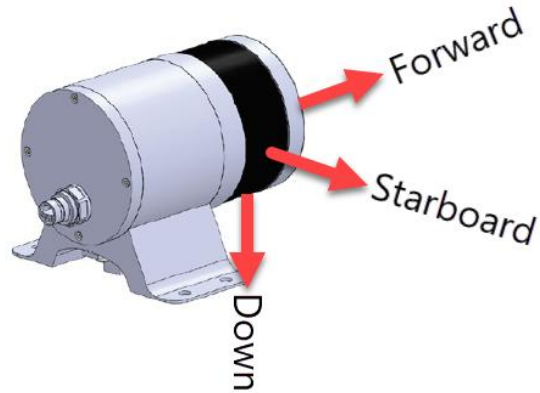
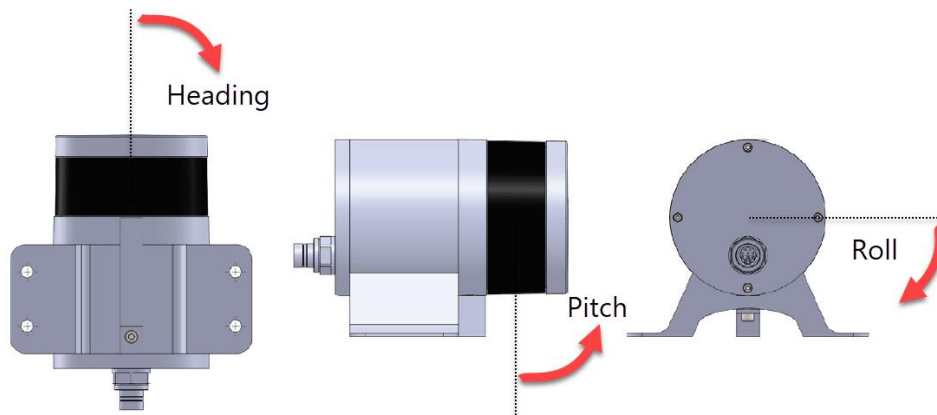

Figure 2: iLiDAR installation conventions (arrows indicate positive direction)
Figure 3: iLiDAR installation orientation conventions (arrows indicate positive rotation direction)
SonarWiz assumes that the iLiDAR system is oriented with the laser puck forward of the mounting bracket and the mounting bracket beneath the puck as shown in Figure 2. To indicate a change of the iLiDAR orientation, apply Heading, Roll and Pitch rotations using the conventions shown in Figure 3.
Note that in the SonarWiz Vessel Editor the vertical (Z) offset is positive down. Therefore, if the iLiDAR is located above the vessel reference point, it should have a negative z-offset as shown in Figure 3.